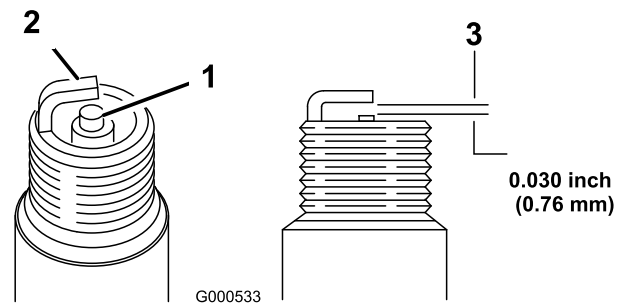

Figure 22
5. Set the gap on the plug to 0.030 inch (0.76 mm) (Figure 22).